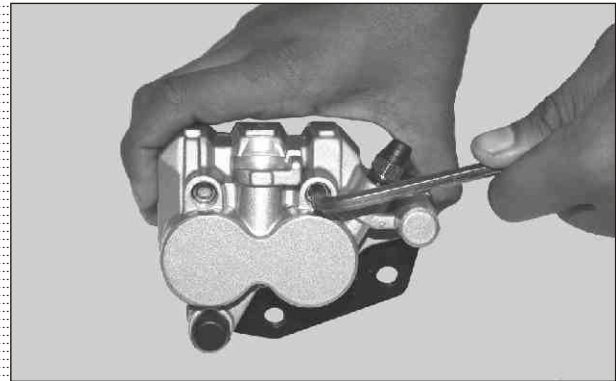

Fig. 6.16
- Remove pin hanger (2 nos). (Fig. 6.16)